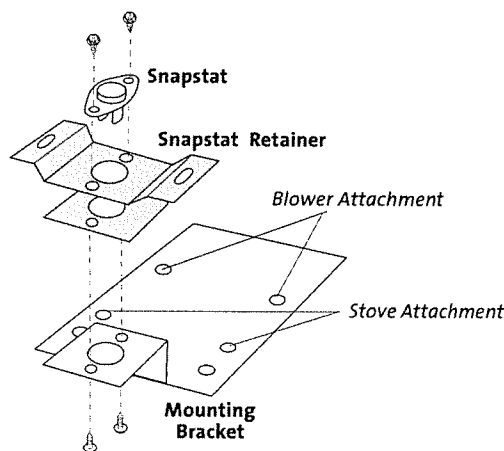

Figure 25. Snapstat / Blower Mounting Bracket assembly.
2. Attach the Snapstat to the Snapstat Retainer using two #7 x 3/8" phillips screws supplied. See fig. 25.
3. Attach the Snapstat Retainer to the Mounting Bracket using the remaining two #7 x 3/8" phillips screws as in fig. 25.